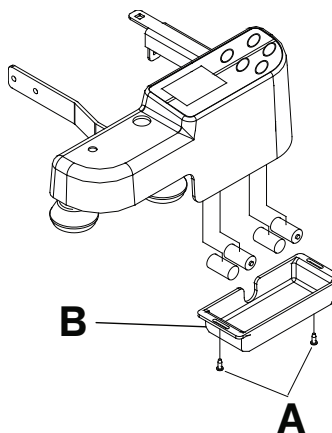

Figure 19 – Battery replacement
1. Use a #2 Phillips screwdriver to remove the two screws (A) that secure the battery cover (B) to the enclosure (Figure 19).